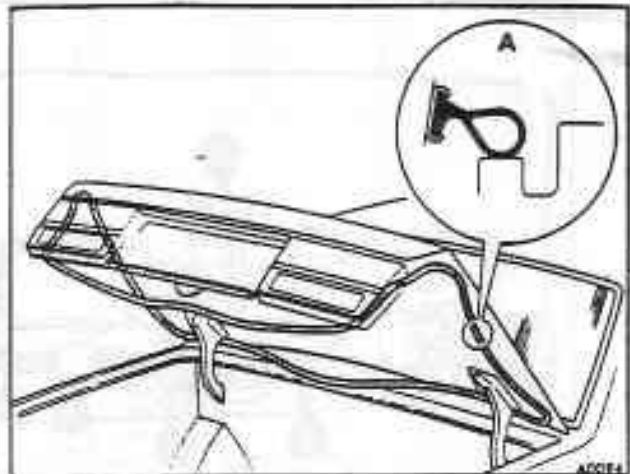

Fig. S13-4 Luggage compartment lid seal
3. Loosely fit the moulded corners of the seal into position on the luggage compartment lid (see fig. S13-4).
4. Ensure that the seal is positioned with the narrower fitting flange upwards (see fig. S13-4, inset A).